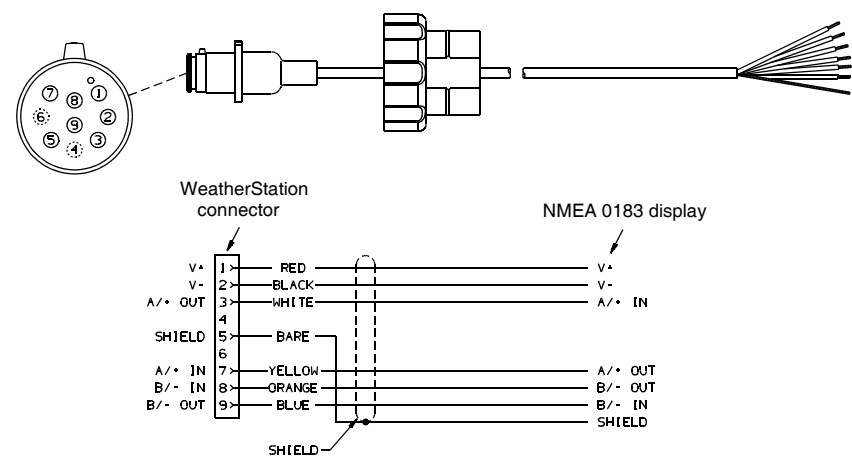

Figure 6. Wiring diagram to connect to an NMEA display
- **No connector**—If your WeatherStation instrument does not have a connector on the display end, it must be hard wired. Refer to the owner's manual that came with your display and connect the colored wires as shown in the table opposite and Figure 6.
5. Connect the wires to the display (see Figure 6).